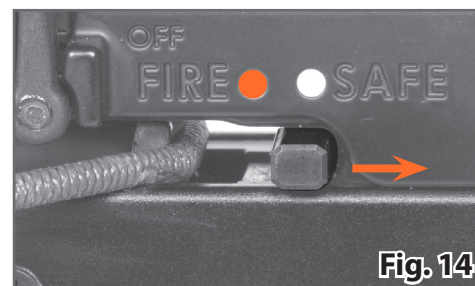

Fig. 14
2. Slide the safety switch from the FIRE position to the ON SAFE position. (Fig. 14)
4. Carefully inspect the safety switch to ensure that it is fully in the ON SAFE position (Fig. 14). If the safety switch has not moved all the way back to the WHITE dot, it has not been placed ON SAFE and is still in FIRE position. Always visually inspect the safety switch to make certain that it is in the desired position.
⚠ WARNING: IF FOR ANY REASON THE SAFETY SWITCH DOES NOT FULLY MOVE TO THE ON SAFE POSITION (FIG. 14), SAFELY DE-COCK THE BOW THROUGH THE USE OF AN ARROW AS DESCRIBED IN SECTION 8.D. DO NOT USE THE CROSSBOW. CALL CUSTOMER SERVICE AT 1-866-726-1122 FOR AUTHORIZED REPAIR.